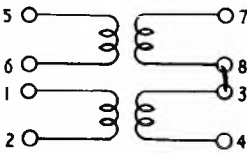

FIG. 3.
- STEP 7. Measure the induced voltage across terminals 5 and 6. Record the values of E_p & E_s in Fig. 3 and Table 3.